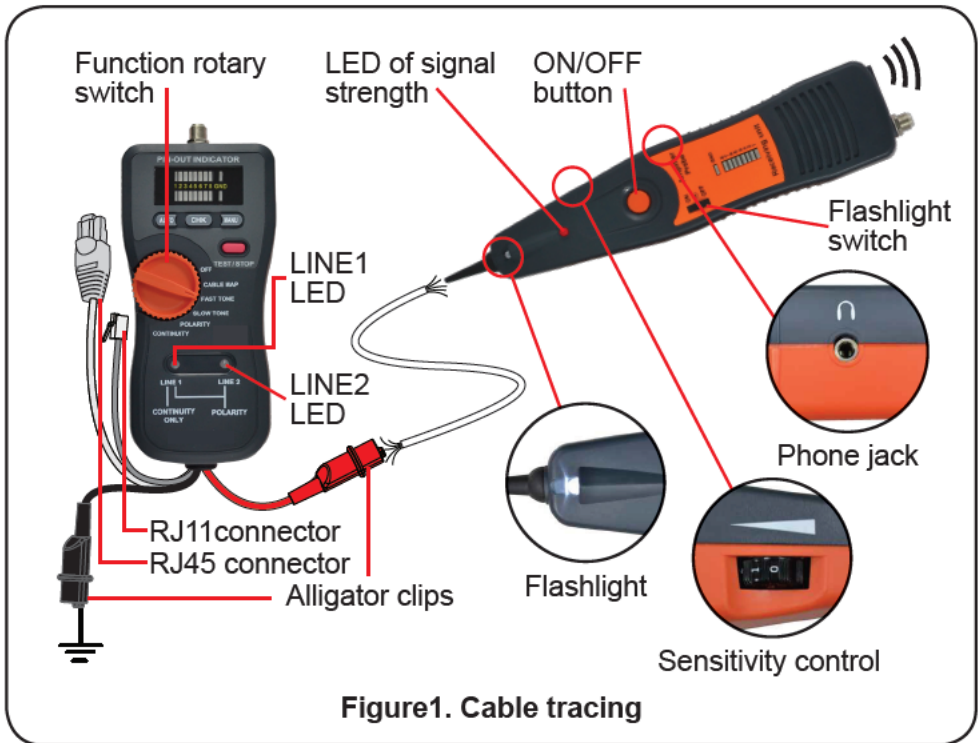

Figure1. Cable tracing
Connect one test lead to a terminated wire and the other test lead to earth or equipment ground.(See Figure 1)
1. Connect the test leads to the pair, or attach one lead to ground and one lead to either side of the line.(See Figure 1)